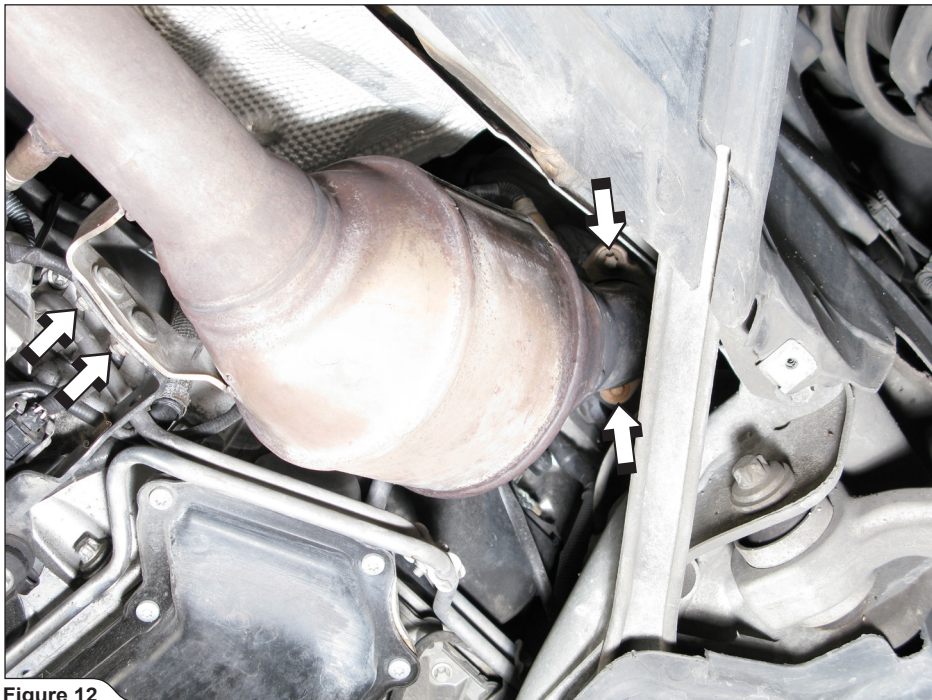

Figure 12
11. **For Evolution only:** loosen the down pipes' flange bolts and brackets' nuts on both sides of the engine, so the down pipes can be adjusted after Akrapovič pipes installation (**Figure 12**).